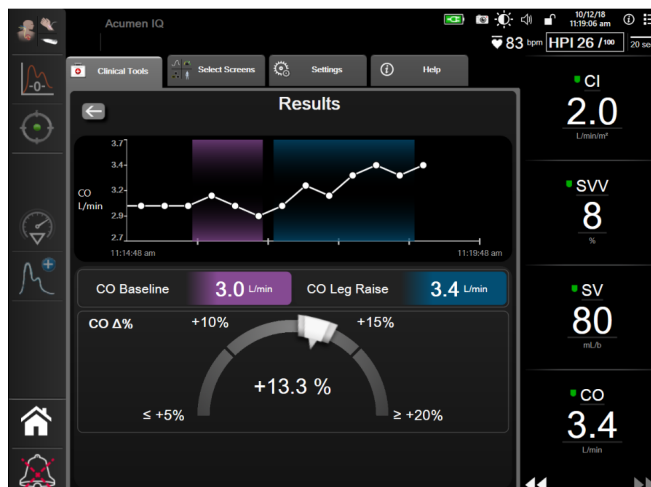

Figure 14-14 Fluid Responsiveness Test – Results Screen
- 9 At the conclusion of the test, the change in the selected **Parameter** value as a response to the fluid challenge will be displayed. See Figure 14-14. Touch the return icon to perform another test, or the home icon to return to the main monitoring screen.
- 9 At the conclusion of the test, change in the selected **Parameter** value as a response to the fluid challenge will be displayed. See Figure 14-14. Touch the return icon to perform another test, or the home icon to return to the main monitoring screen.